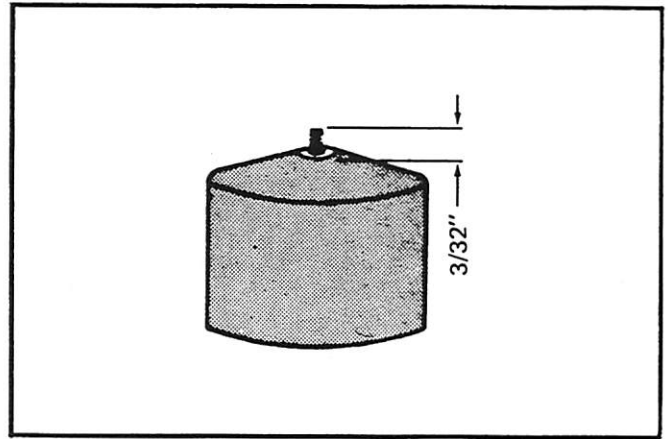

Figure 4.
9. Check that float spring measures approximately  $3/32$ " from top of float (not insert) to end of exposed spring. (Figure 4)